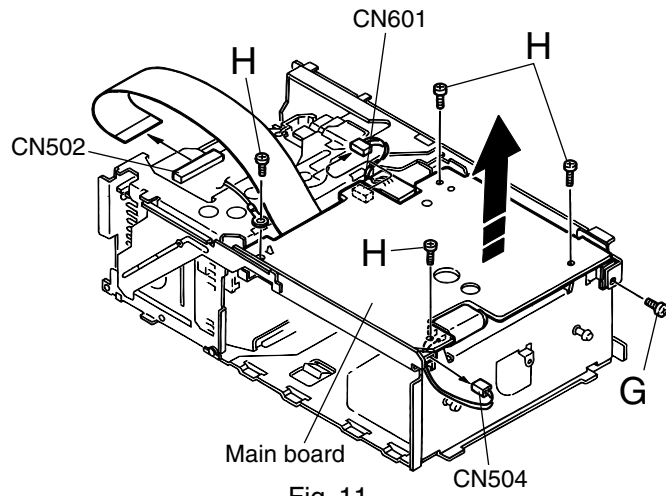

Fig. 11
■ **Removing the main PCB assembly (See Fig.11)**